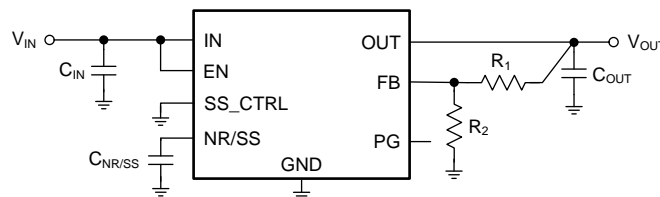

Figure 38. Adjustable Operation
The output voltage of the TPS7A9201 can be adjusted from 0.8 V to 5.2 V by using a resistor divider network as shown in Figure 38.
(1) R₁ is connected from OUT to FB; R₂ is connected from FB to GND; see 图 38.